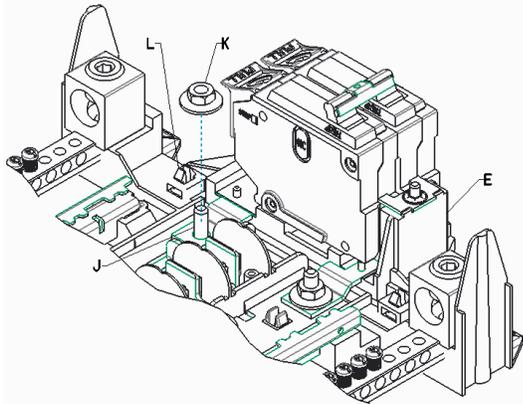

Figure 4: Assemble the conversion kit with breaker to the load center interior.
4. Remove the main lugs from the load center interior. Keep the nuts (K), shown in Figure 4, for future use.
5. Insert the straps on the conversion kit base onto the threaded stud (J), positioning the base (E) over the snap fingers (L) on the load center interior.
6. Push the base (E) over the snap fingers (L) until they are fully engaged, then tighten the nuts (K) to 35 to 50 in-lb.